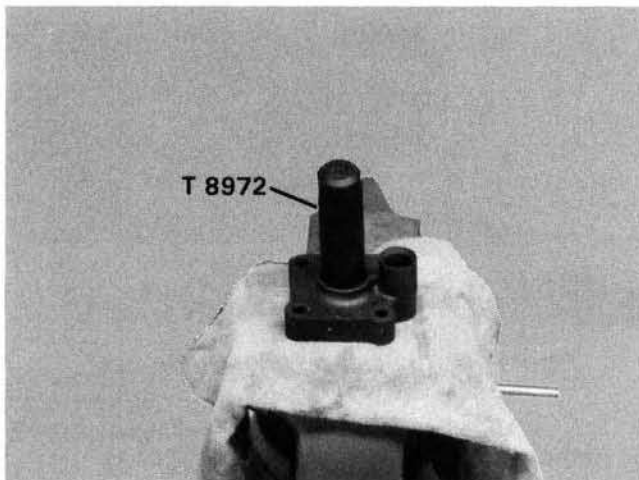

Figure 11. Installing Water Pump Seal.
- B. Place new seal, spring side up, on seal bore; press seal in with seal installer, Special Tool No. T 8972. Figure 11.